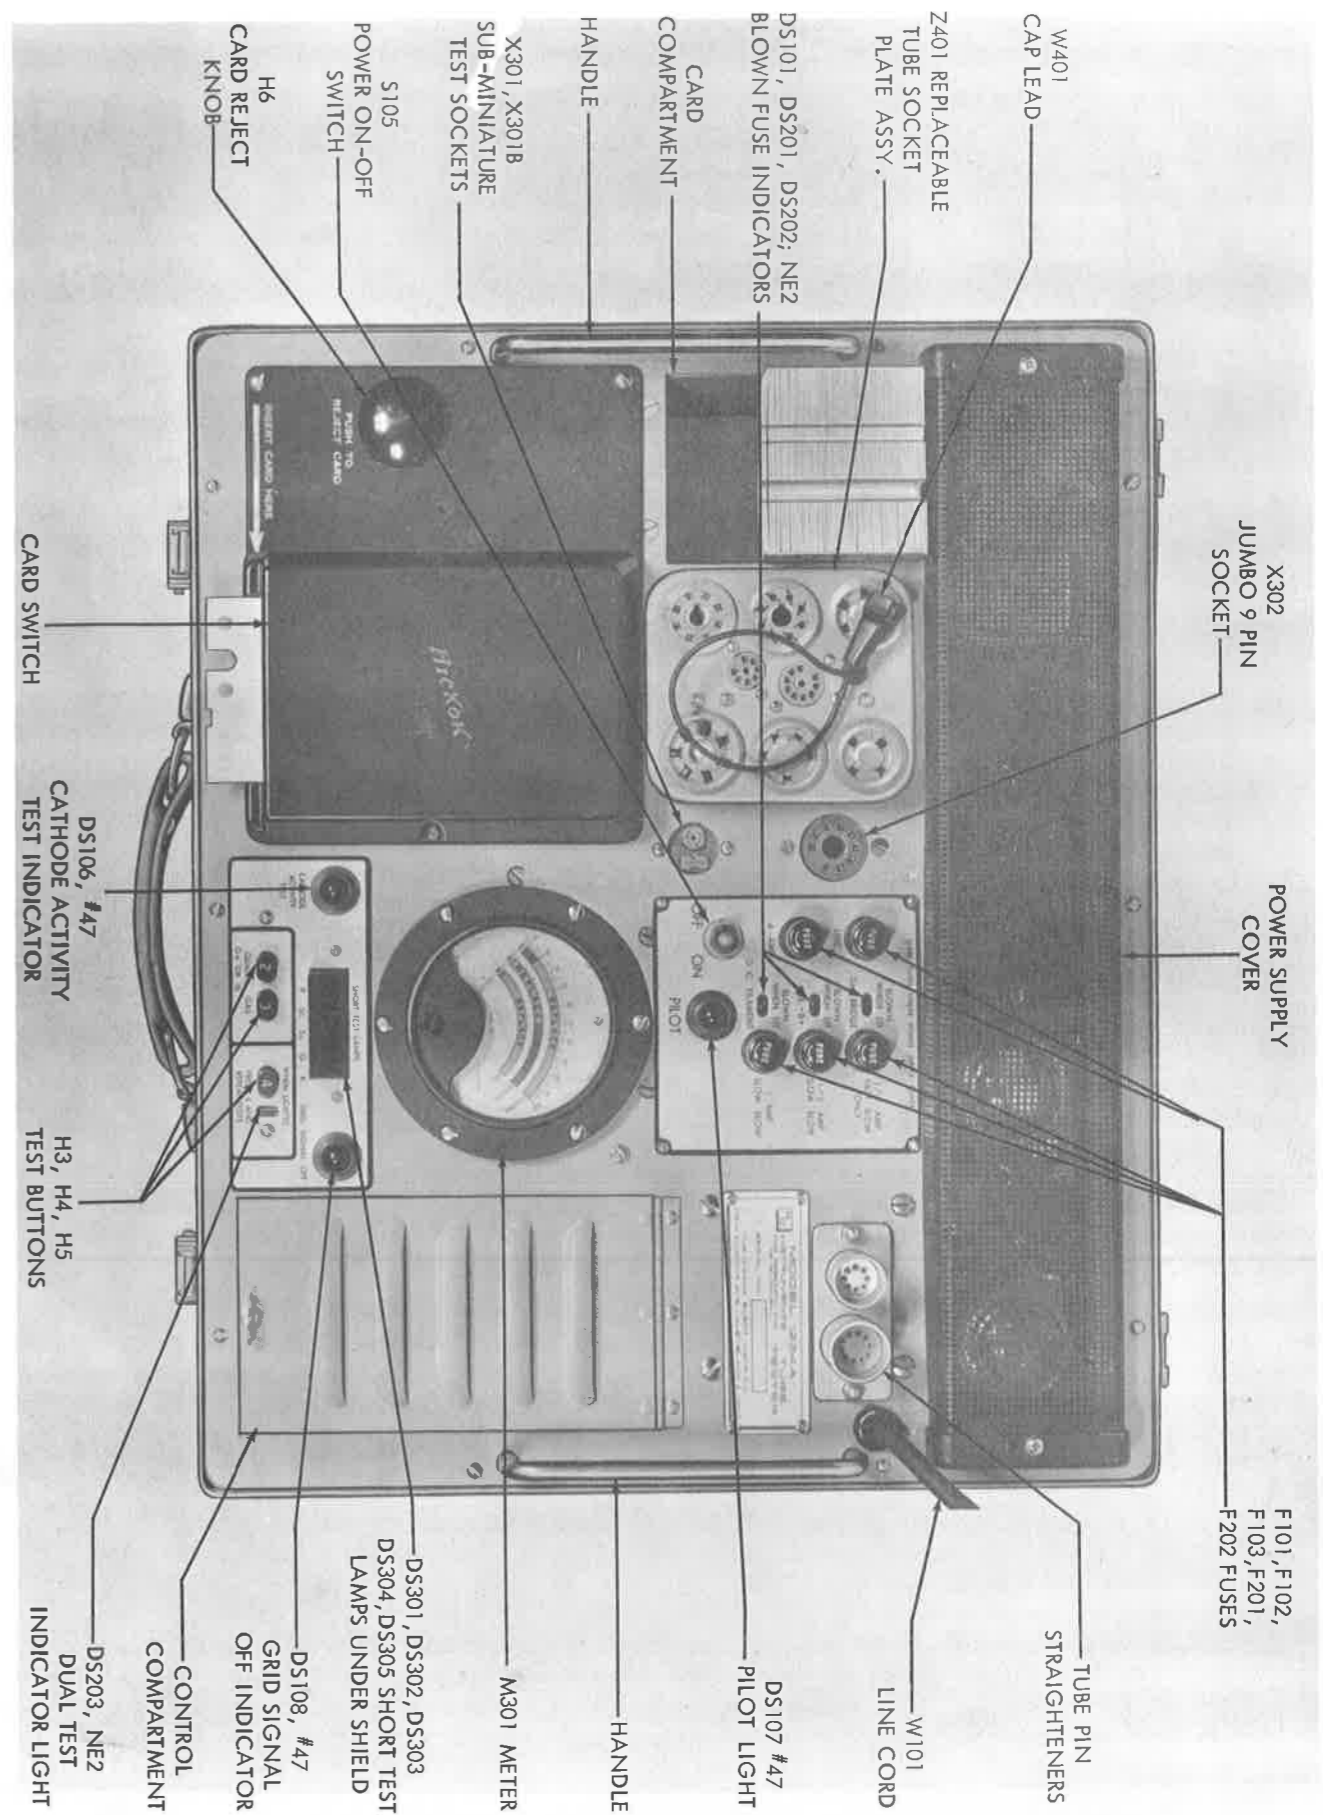

Figure 2. Identification of Controls and Components
2.04 The front panel is shown in Figure 2. The largest feature is the card switch which has a receptacle for receiving the program cards. When a pre-punched card is fully inserted into the switch it actuates a micro-switch which in turn actuates a solenoid to move the card switch contacts to complete the circuit. When the card switch actuates, the large knob at the left of it pops up. This PUSH TO REJECT CARD knob must be pressed to open the switch contacts and release the card. The card switch actuates only when a card is in the proper position and operates on the principle that absence of a hole in the card makes a contact.